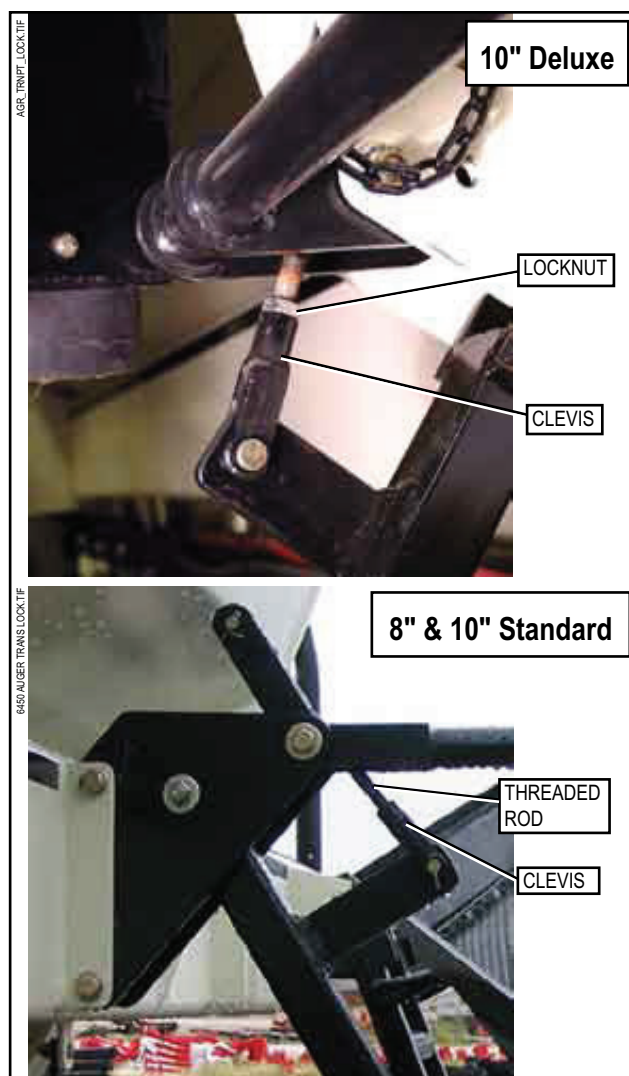

Figure 11.39 - Auger Transport Lock Adjustment
1. Loosen the locknut shown in *Figure 11.39*.
1. Remove the pin that attaches the clevis to the lock lever. Refer to *Figure 11.39*.